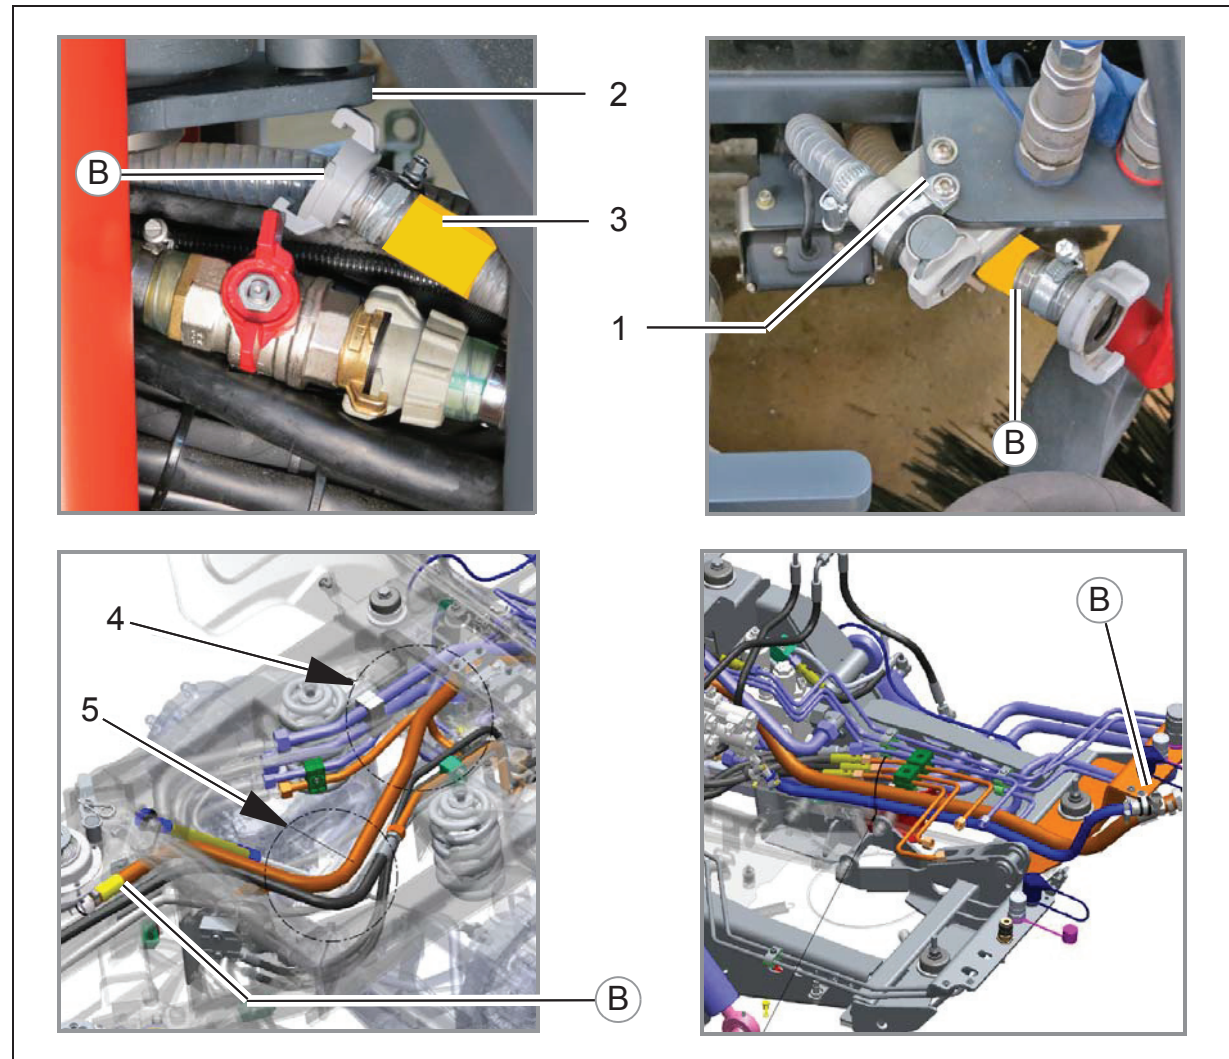

Fig.5
3. Route the circulating water hose (Fig. 5/B) between the hose fastener (Fig. 5/1) and the articulation area (Fig. 5/2).
6. Affix the yellow sticker (Fig. 5/3) to both ends of the circulating water hose.
- If necessary, route the circulating water hose in front of the air-conditioning hoses (Fig. 5/4).
- Route the circulating water hose on the right around the vacuum line to the hose assembly (Fig. 5/5).